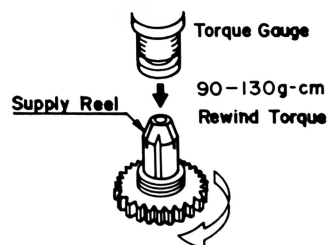

Figure 8
3. Measure the rewinding torque value. Torque of more than 90 g-cm is necessary for rewinding operation (Figure 8).